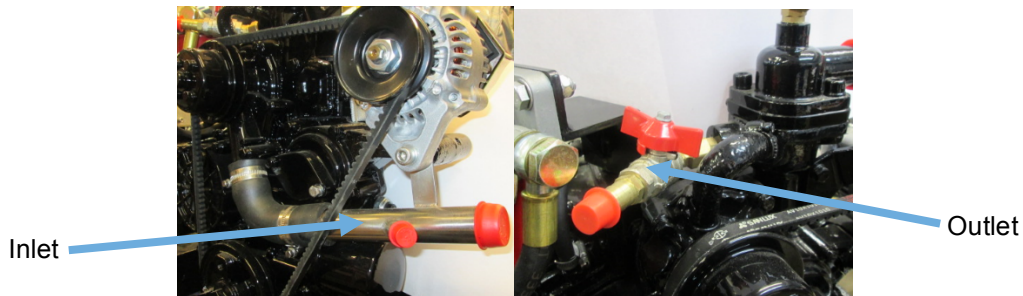

Figure 9: Position of Calorifiers on a Canal Boat
- The calorifiers are positioned as per (**Figure 9**)